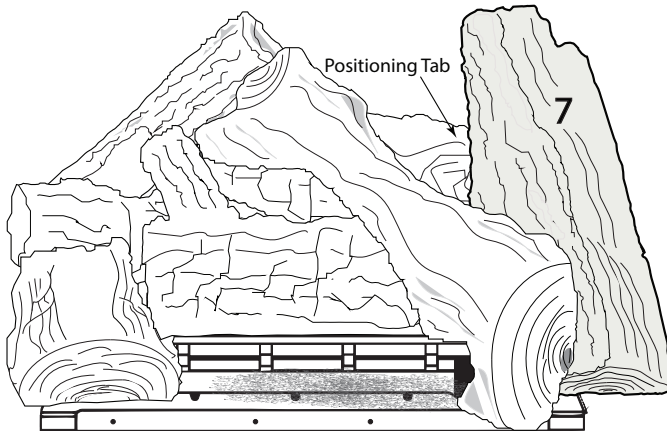

Figure 6.26 - Log #7 Placement
- Place Log #7 on the lower right side of the burner. Log #7 should rest on the front edge of the burner and the lower left side should contact Log #5. The upper left side of Log #7 should sit flush against the positioning tab on Log #2. See Figure 6.26.